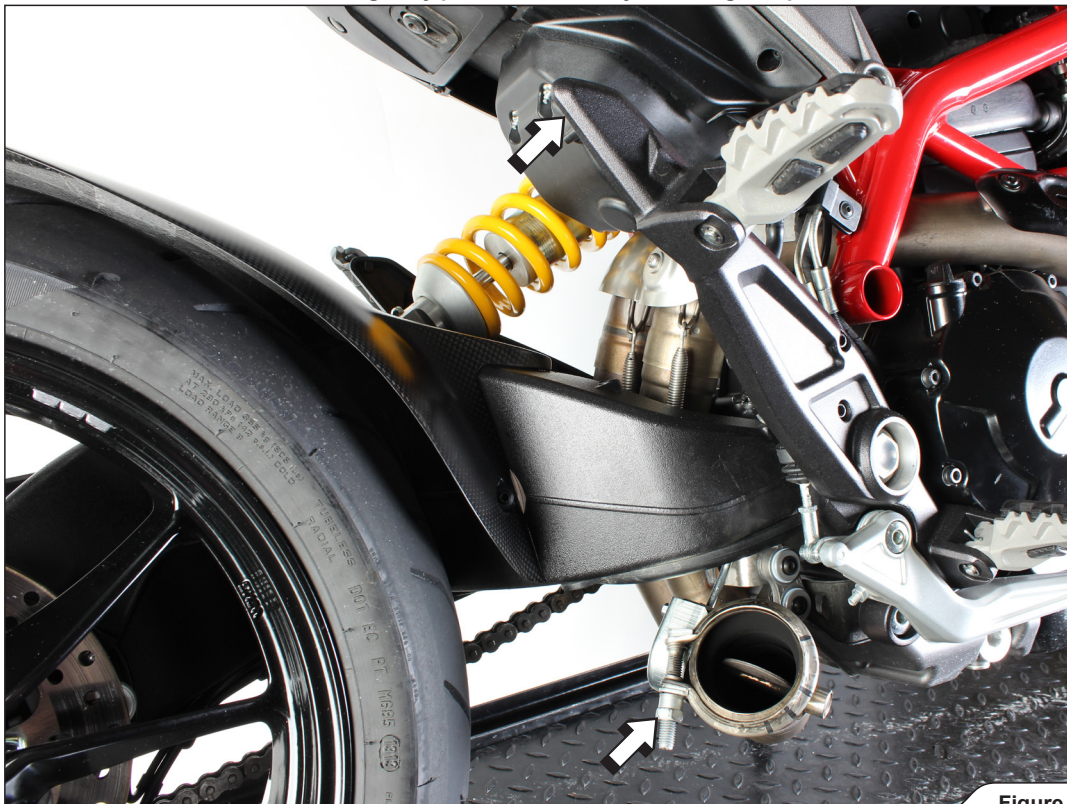

Figure 1
2. Unscrew the clamp at the muffler's inlet pipe - collector joint and muffler's bracket bolt. Carefully remove the muffler (Figure 1).